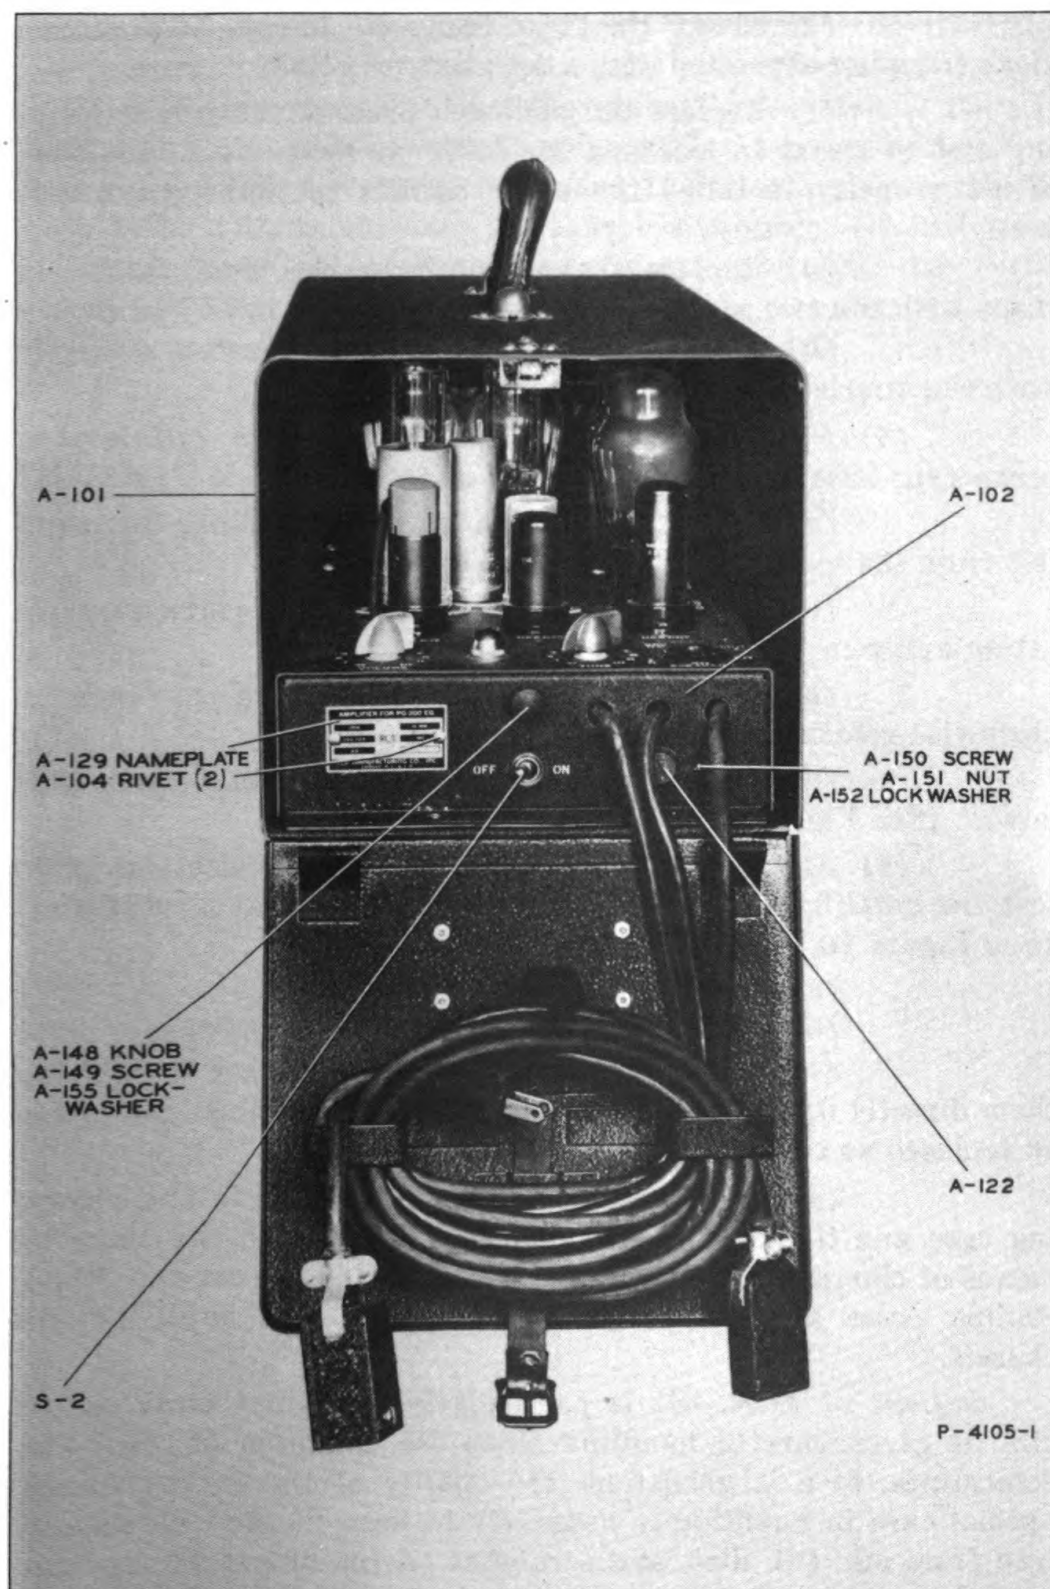

Figure 10—Amplifier—Cover Open
(5) Amplifier Tubes—When it becomes necessary to test the amplifier tubes or to replace tubes proceed as follows: (See Figure 10.)